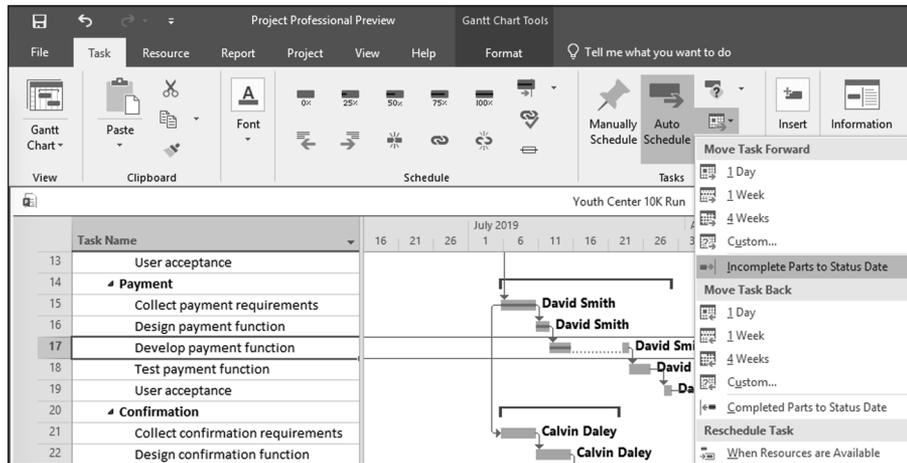

FIGURE 15-8:
The choices for rescheduling the task appear, as shown in Figure 15-8.
- *To reschedule part of the task according to the status date:* Choose the Incomplete Parts to Status Date option to split the task and move the uncompleted portion to resume later, starting on the status date. Choose the Completed Parts to Status Date option to split the task and move the completed portion earlier, before the status date. Figure 15-8 shows that the “Develop payment function” task has now been split.